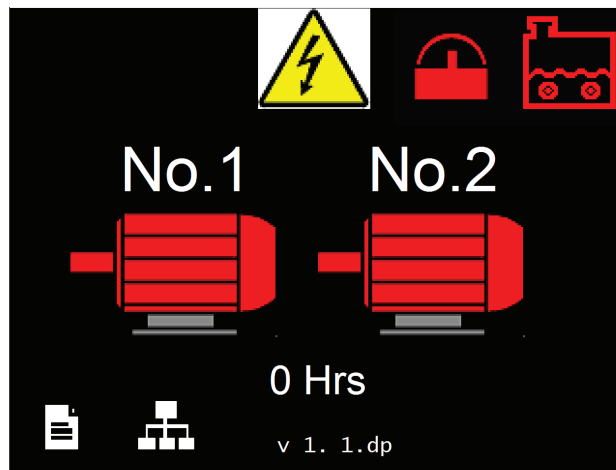

Figure 7.24 - Motor 1 and 2 Fault
5. If a motor goes to Fault condition the motor symbol will change to red, Reference: Figure 7.24.